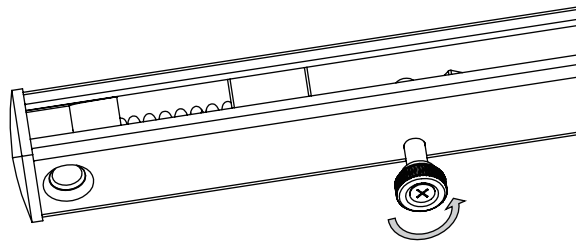

Figure 5
- e Turn the release knob counterclockwise 180° to verify that the hold-open function is disengaged. (Figure 5)